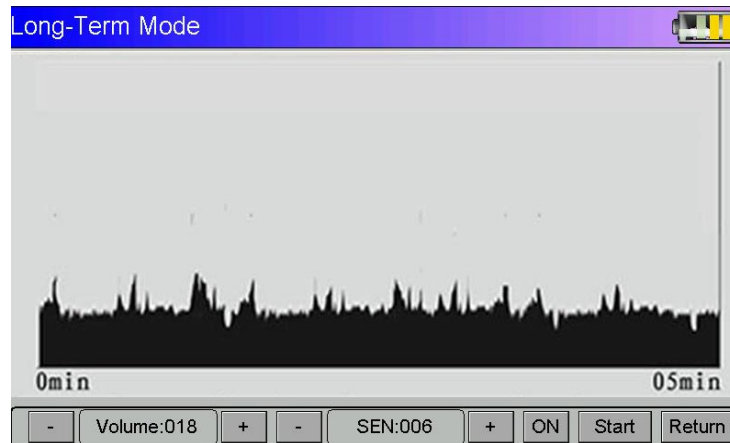
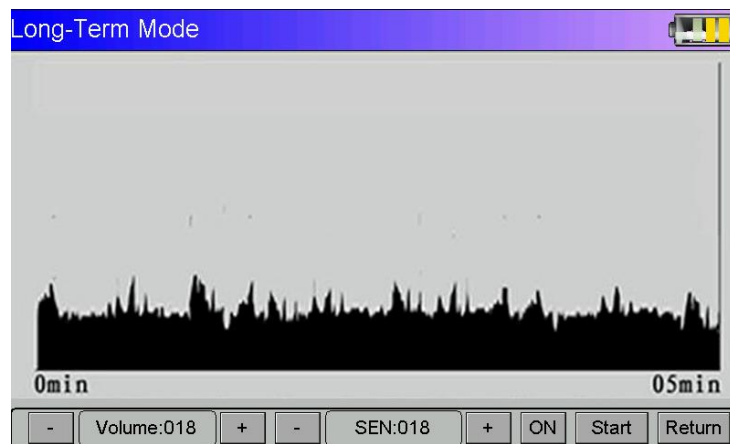

Figure 1
Figure 2
- (1) The sensor direct contact with the pipe for continuous monitoring
- Pipeline flow is small: whether to raise or lower the sensitivity, the curve volatility is not big, can judge where is not the leakage point. (See Figure 1, Figure 2 )